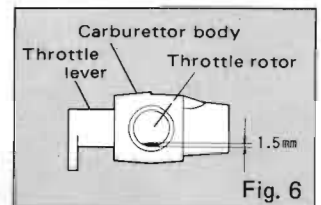

Fig. 6
- 2) The throttle should be set at the idling position, as illustrated in Fig. 6, when starting the engine.